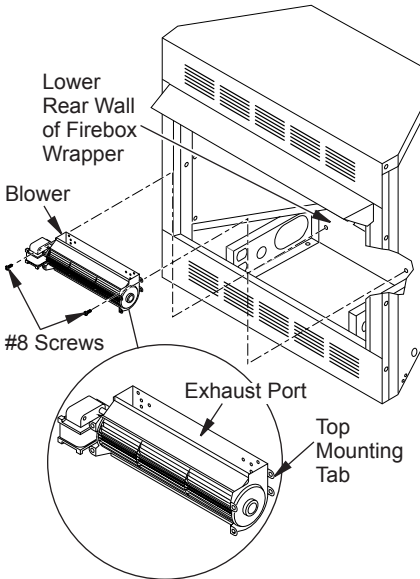

Figure 3 - Mounting Blower to Firebox
- Place the blower against lower rear wall of firebox outer wrapper with the exhaust port directed upward. Align the holes in top mounting tabs of blower with holes in wall of wrapper (see Figure 3, page 4). Using two #8 screws provided, mount blower and tighten screws firmly.